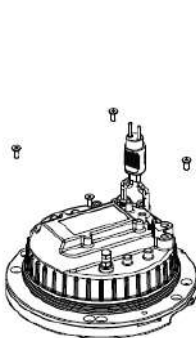

Figure 5-4
- Place the top of the lighting fixtures downwards and dismount 4 M5×25 cross sunk screws (see Figure 5-4).